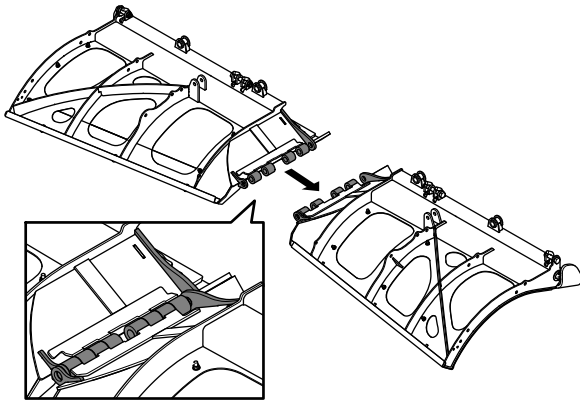

Figure 3
1. Lay the left and right blades face down and bring them together so that the hinges interlock and the cutting edges are even (Figure 3).